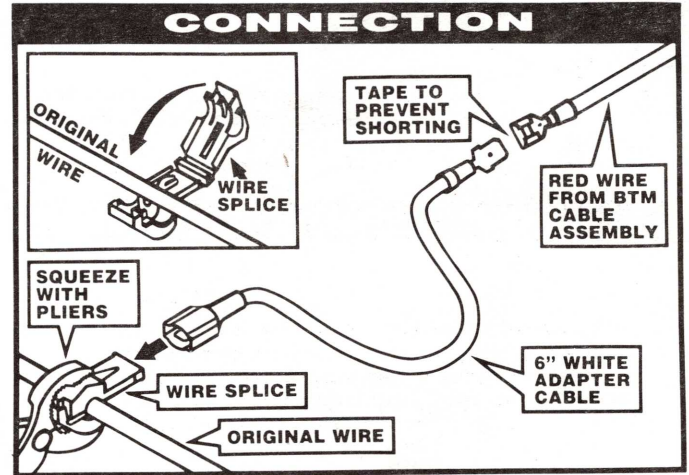

Figure 2
5. Install the T-Tap Splice Connector onto the RED/LIGHT GREEN wire and plug the 6" White adapter cable into the Tap Splice Connector (see Figure 2). Plug the MSD BTM Cable Assembly Red wire into the 6" White adapter cable (Tape to prevent shorting).